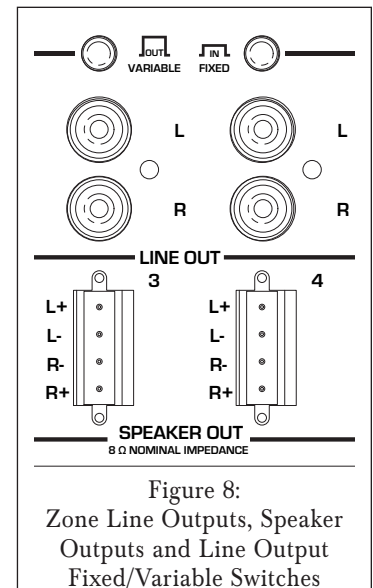

Figure 8:
6. Press the removable connector into the corresponding zone SPEAKER OUT connector on the controller until it locks into place (see *Figure 8*).
In addition to Speaker Output connectors, each zone on the DAB1 also has a set of Line Output jacks (see *Figure 8*). The Zone Line Outputs let you connect high-power amplifiers to individual zones that require more power than the DAB1's built-in 30 Watt/ch amplifier can provide, or expand a zone into sub-zones by using a multi-channel amplifier.
Each zone Line Output has a push-button switch that toggles the Line Output between VARIABLE (OUT) and FIXED (IN). (See *Figure 8*.) The VARIABLE setting allows zone keypad and remote controllers to control the level of the LINE OUTPUTS. In the FIXED setting the LINE OUTPUT level cannot be varied. *NOTE: The keypad and remote control MUTE controls function ONLY in the VARIABLE setting.*